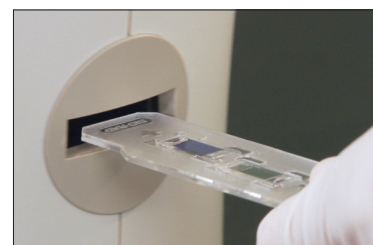

Fig. 2. Inserting the slide into the TC20 cell counter; counting automatically begins.
1. Completely insert the slide into the slide slot (Figure 2). If the slide is not completely inserted, the instrument does not detect the slide and counting does not start.